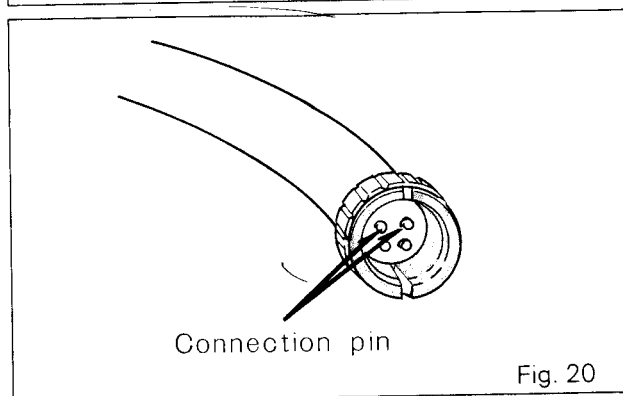

Fig. 20
- Yes: Remove the headshell, touch the upper two pins at the end of the arm with a metal screwdriver and listen for the speaker to produce a humming noise. (Fig. 20)